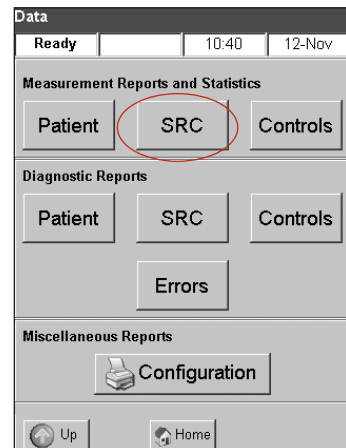

Figure J-6: Data screen > SRC button
2. In the Measurement Reports and Statistics section, tap **SRC** (Figure J-6).